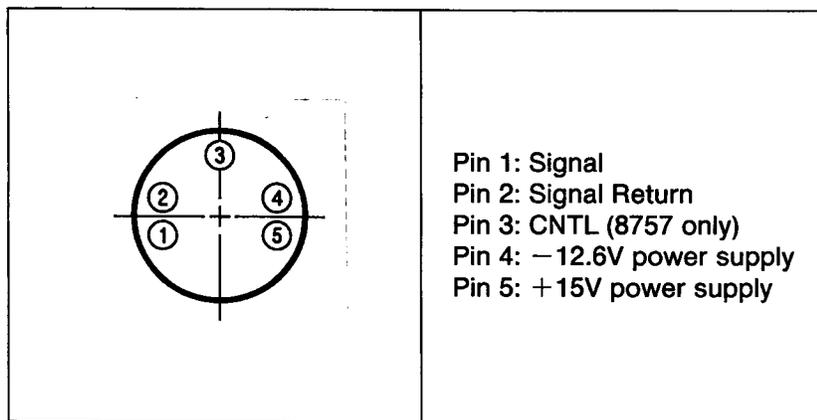

Figure 7-1. Identification of Analyzer Input Pins
1. To determine whether the HP 11613B is being provided with power by the HP 8756A/57A analyzer, use a DVM to measure the  $-12.6\text{V}$  and  $+15\text{V}$  power supplies at pins 4 and 5 of one of the network analyzer’s front panel input connectors. These pins are identified in Figure 7-1. To insure that the supplies are good under load, connect a  $348\Omega$  resistor from pin 4 to chassis ground and measure the voltage across the resistor with a DVM. Repeat the procedure for pin 5. If pin 4 reads  $-11 \pm 0.5\text{V}$  and pin 5 reads  $+13 \pm 0.5\text{V}$  under load, continue with the next step. The voltage levels on the HP 8755A/B/C will be slightly different.